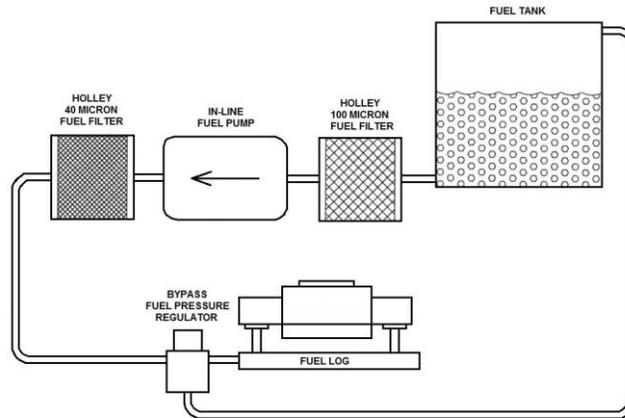
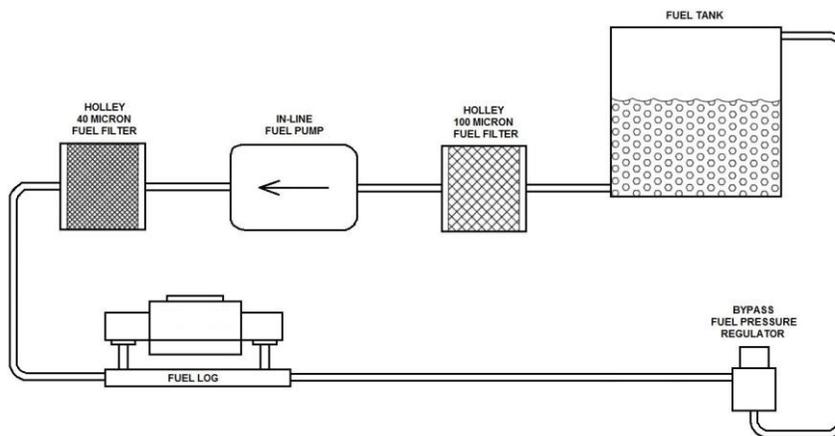
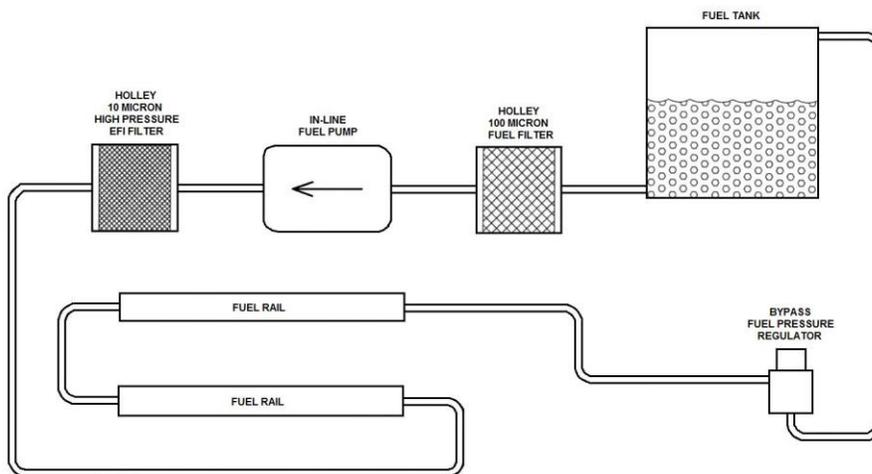

Figure 2a (TBI Unit Only)
Figure 2b (TBI Unit Only) – additional plug needed
Figure 2c (EFI Only) – additional plug needed
4. Connect the outlet of the regulator to the TBI unit (if the regulator is installed before the TBI unit – **Figure 2a**). If the regulator is installed after the TBI unit (**Figure 2b**) or EFI (**Figure 2c**), the outlet needs to be plugged.